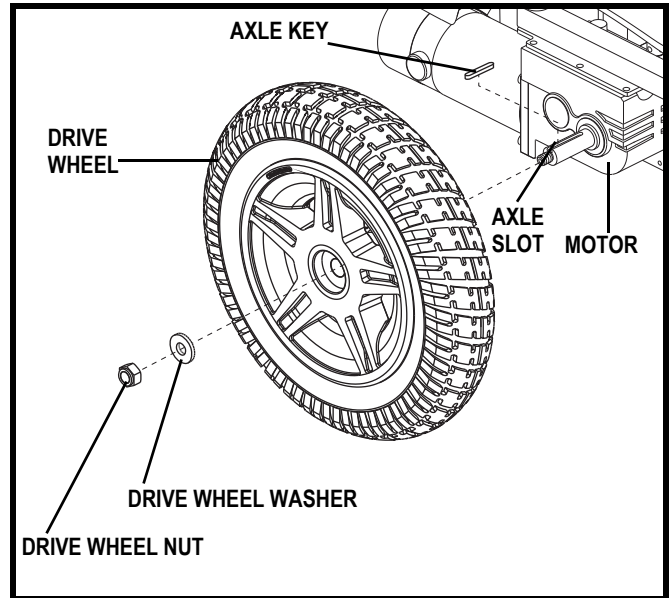

Figure 21. Jazzy Select HD Drive Wheel Removal
4. Remove the drive wheel nut and washer from the axle. See **figure 21**.
8. Reinstall the drive wheel nut and washer onto the axle and tighten. See **figure 21**.